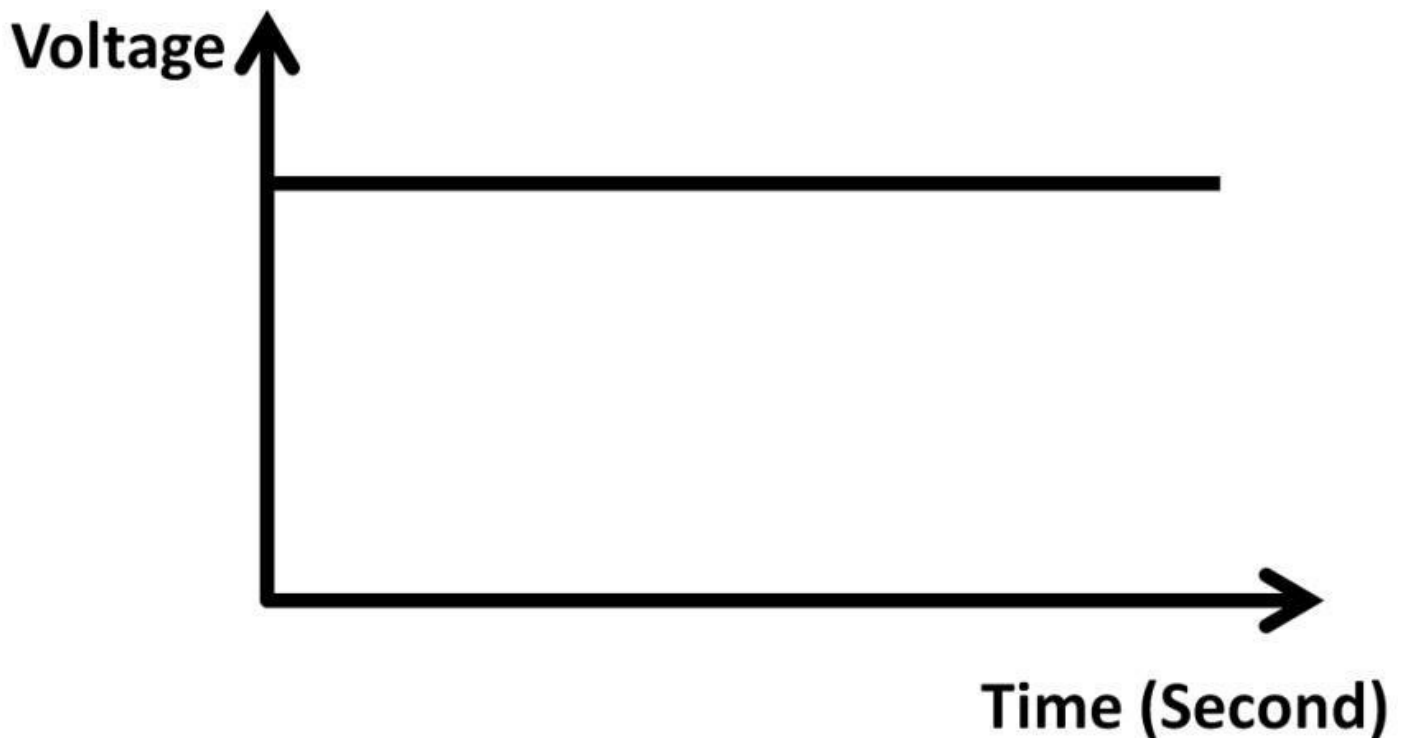

Figure 1.2: Voltage vs. time in DC
Direct current (DC) states that electrical current flows through a resistor without changes in amplitudes or frequencies. A waveform can be used to make clear such phenomenon. A waveform is a time (transient) domain graph that shows quantities such as voltage, current, or power on the vertical (Y-axis); time on the horizontal (X-axis) (see figure 1.2). In this waveform, the DC voltage level stays the same over time while the frequency of DC is zero. We will further define amplitude and frequency in chapter 3, AC.